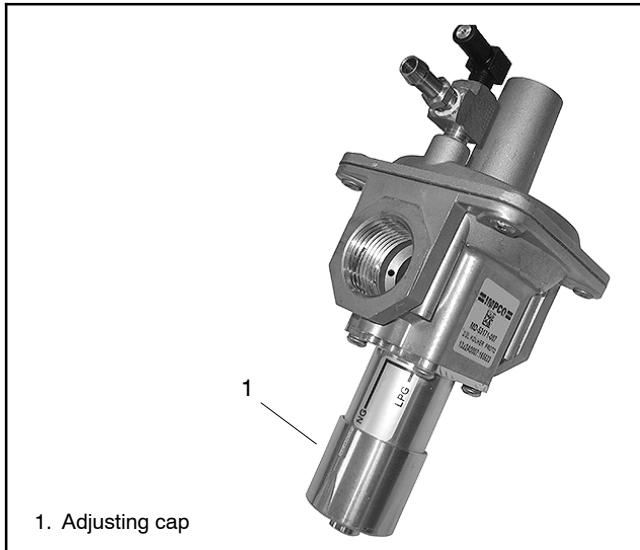

Figure 1-21 Fuel Pressure Regulator
1. Push the adjusting cap to its upper stop and rotate toward the LPG marking, release upward pressure, and lock into place. Figure 1-21.
1. Push up on the adjusting cap and rotate toward the NG marking. Release upward pressure, and lock into place. Figure 1-21.